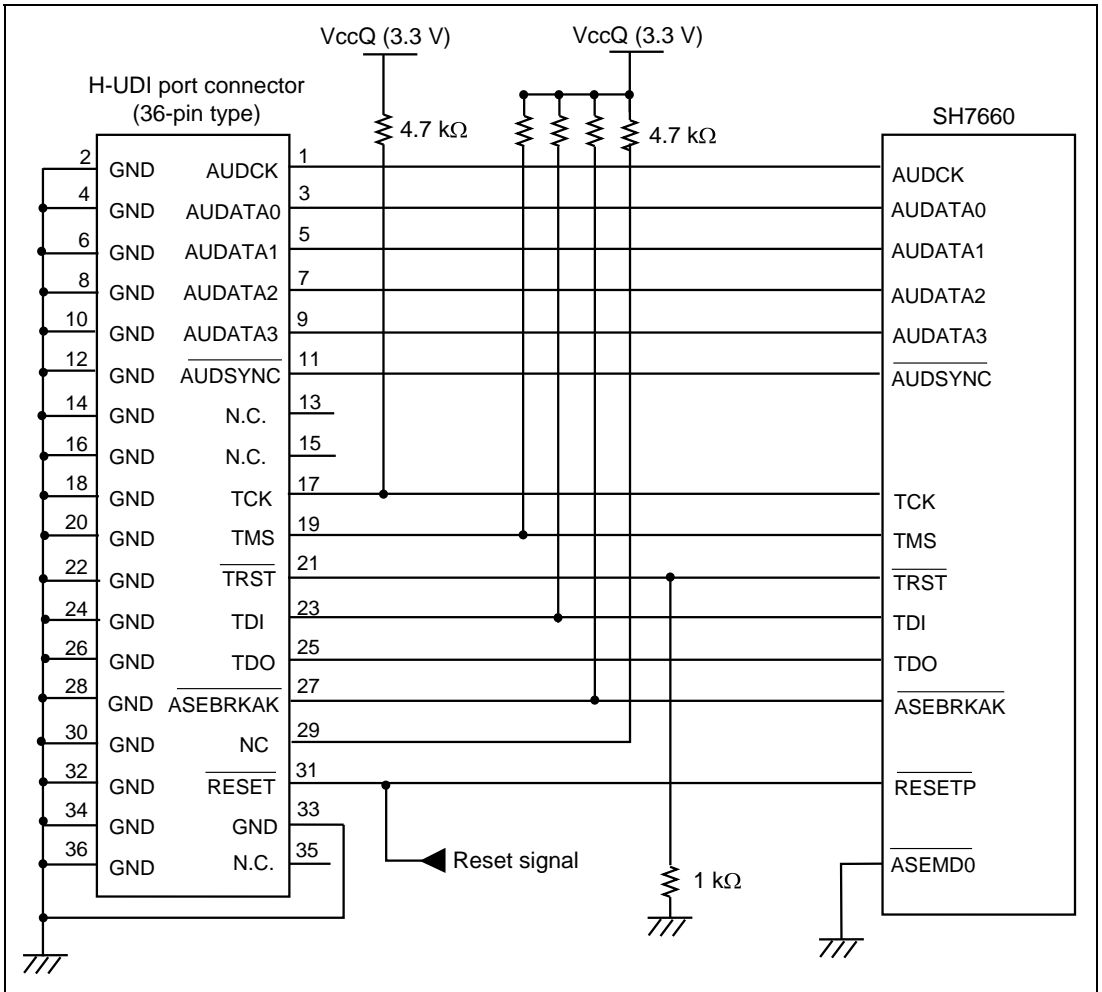

Figure 1.5 Recommended Circuit for Connection between the H-UDI Port Connector and MPU (36-Pin Type)
Figure 1.5 shows a recommended circuit between the H-UDI port connector (36 pins) and the MPU.
7. The resistance values shown in figure 1.5 are recommended.